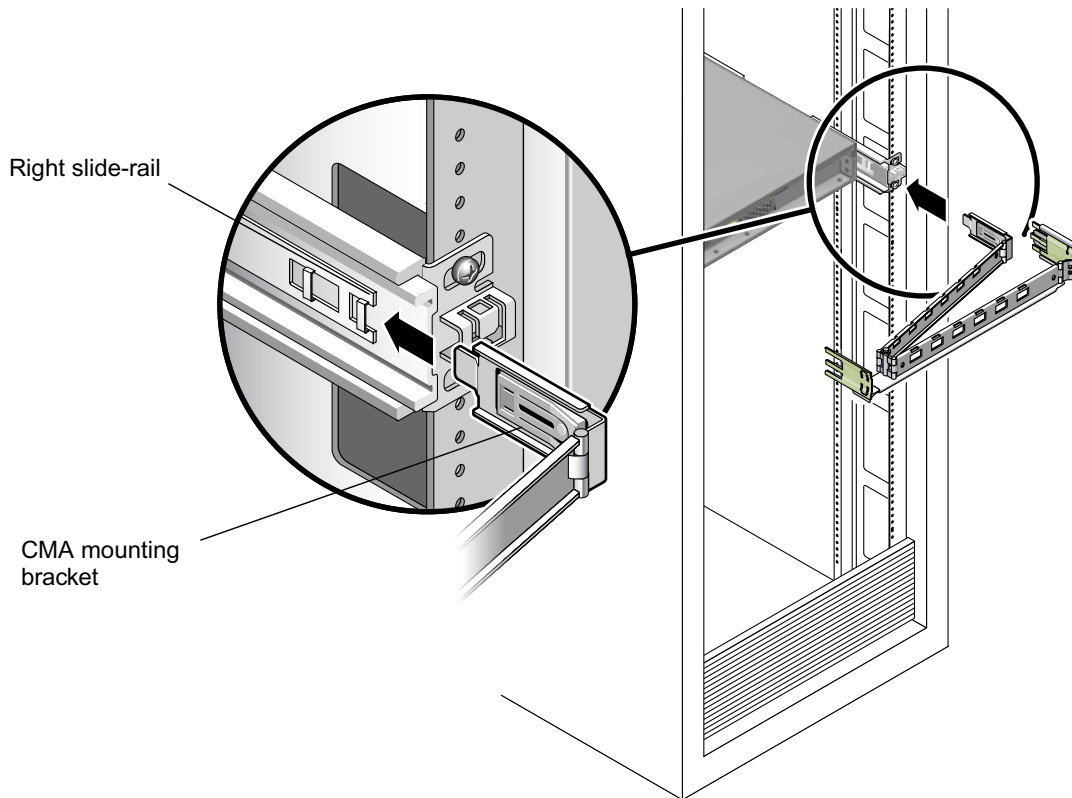

FIGURE 1-10 Inserting the CMA Mounting Bracket Into the Back of the Right Slide-Rail
5. Insert the CMA's mounting bracket connector into the right slide-rail until the connector locks into place with an audible click. (See FIGURE 1-10.)